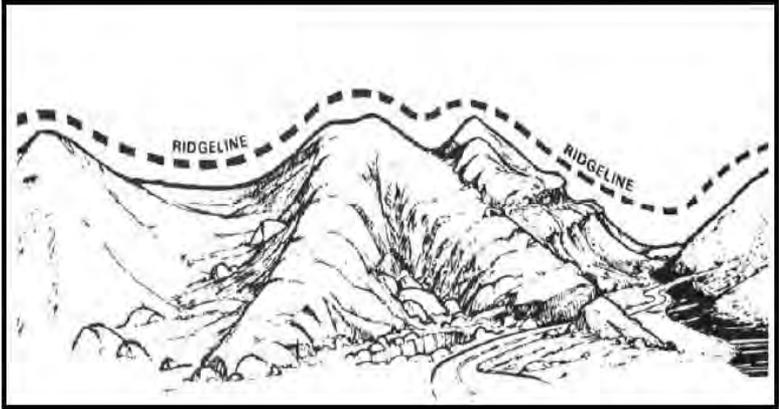

Figure 071-COM-1001-1. Ridgeline.
*Note:*All terrain features are derived from a complex landmass known as a mountain or ridgeline (Figure 071-COM-1001-1). The term ridgeline is not interchangeable with the term ridge. A ridgeline is a line of high ground, usually with changes in elevation along its top and low ground on all sides from which a total of 10 natural or man-made terrain features are classified.